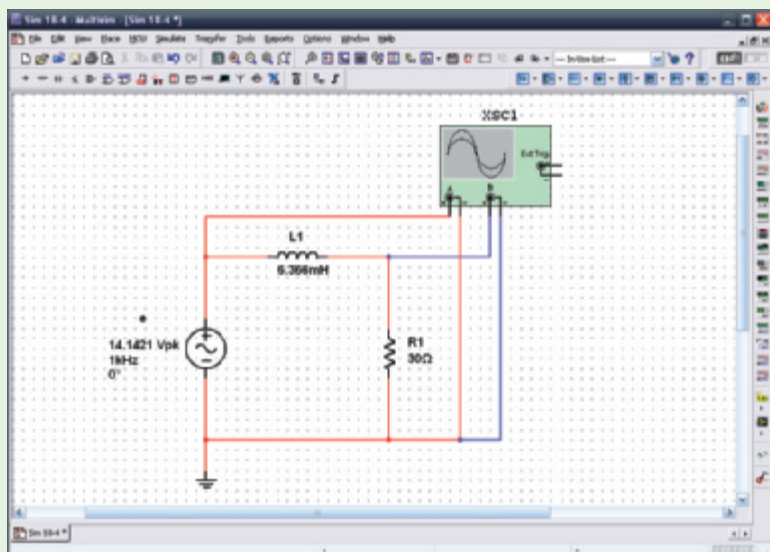

FIGURE 18–70
- Use the schematic editor to input the circuit shown in Figure 18–70.